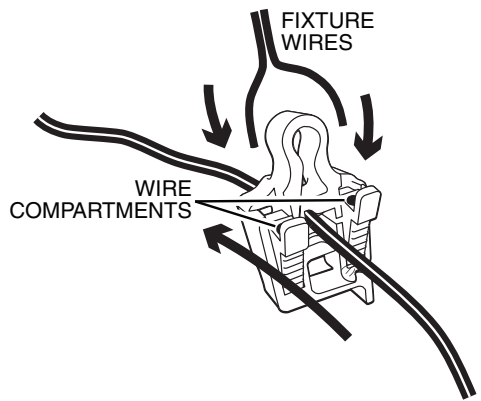

Fig. 11
- 4. Locate end of fixture wires. (Fig. 11)